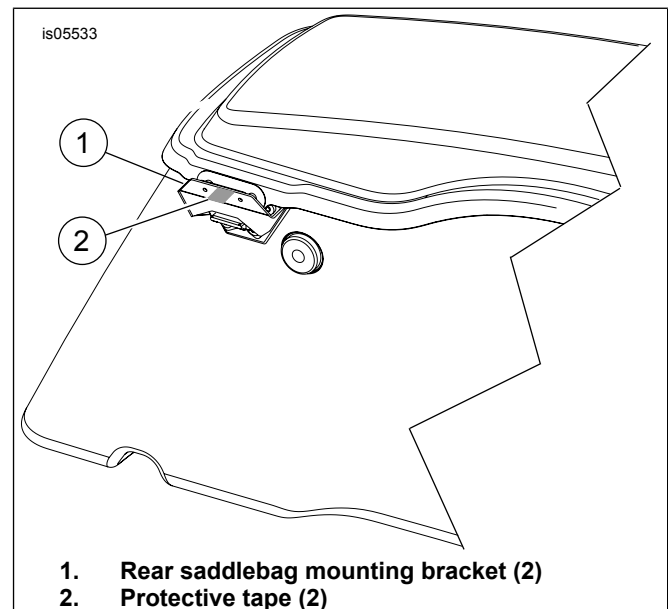

Figure 2. Apply Protective Tape
5. See Figure 2. Apply protective tape (2) to the rear saddlebag mounting bracket (1) on the saddlebag in the location shown. Repeat steps for the opposite side.